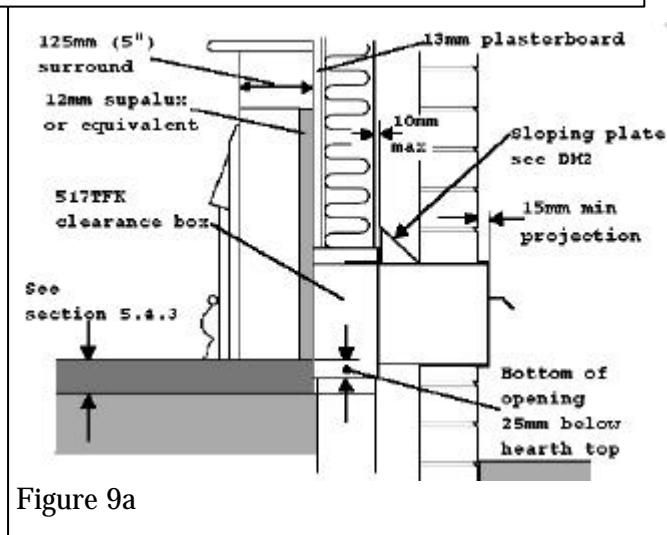

Figure 9a
**5.4.11** **Installing the clearance kit in the cut opening (See figure 9a).**